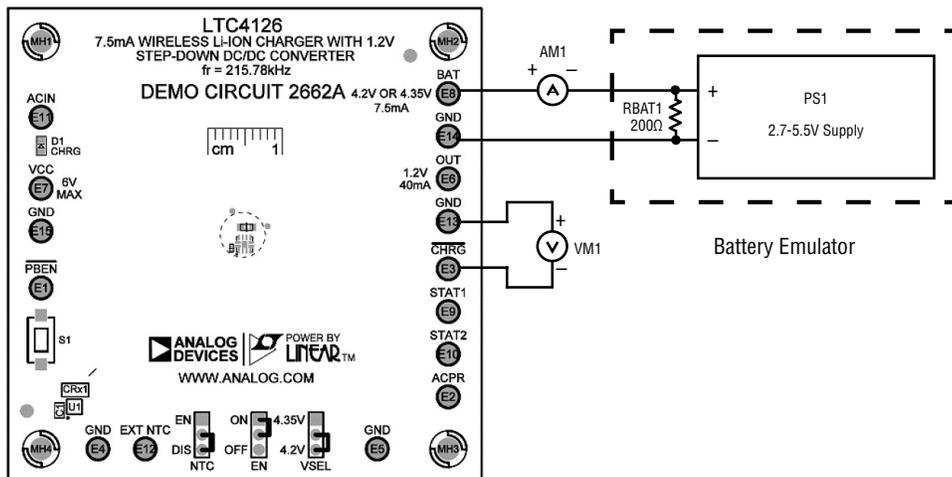
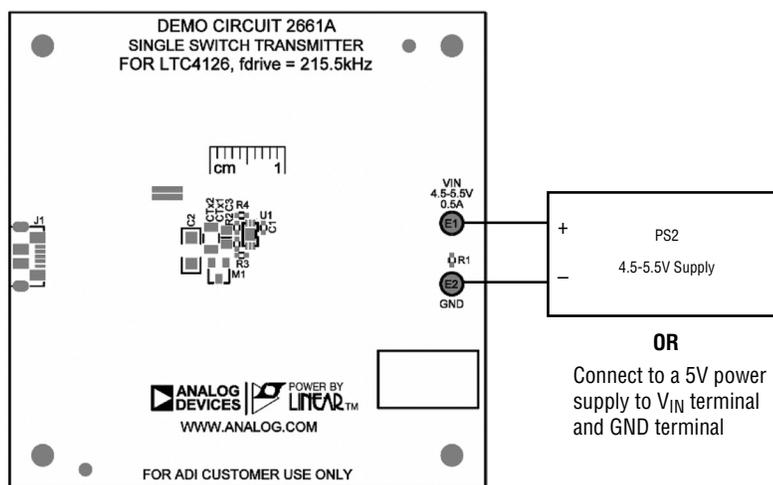

Figure 5. DC2663A Top
Figure 6. DC2661A Top
Refer to Figure 5 and Figure 6 for the proper measurement equipment setup, DC2662A mounting on DC2661A, and follow the procedure below:
1. Plug a Micro-USB cable into DC2661A. J1, with the other end of the cable connected to a computer USB port or a 5V wall wart. The demo may also be powered by applying 4.5-5.5V between V_{IN} terminal DC2661A.E1 and GND terminal DC2661A.E2 (Figure 6).
2. Connect a voltage source PS1 and a 200 Ohm resistor RBAT1 between the BAT and GND terminals DC2662A.E8 and DC2662A.E14, respectively (Figure 5). PS1 and RBAT1 make up the battery emulator. Typical power supplies cannot sink current. By adding a resistor across the power supply inputs that draws more current than the maximum battery charging current, the power supply only sources current even when the battery charge current is at its maximum value.
The WPT for the LTC4126EDC is implemented as resonant power transfer, with the LTC4126EDC rectifying the resonant tank voltage to generate V_{CC} . The LTC4126EDC keeps the voltage at V_{CC} always within 5-5.5V when regulating received power from the WPT transmitter. When the V_{CC} voltage reaches a maximum of 5.5V, an input shunt is activated that dissipates the received power. When the voltage at V_{CC} drops to 5 Volts, the shunt is deactivated, and the power is received and rectified through ACIN again until V_{CC} rises to 5.5V (see Figure 5).